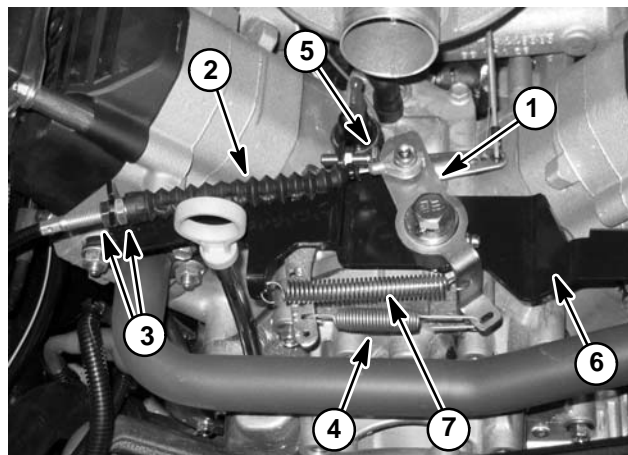
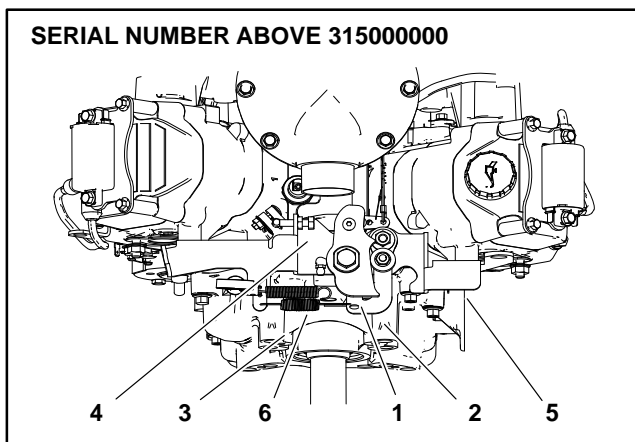

Figure 2
Figure 3
NOTE: Accelerator control for vehicles with serial numbers below 315000000 is shown in Figure 2 and accelerator control for vehicles with serial numbers above 315000000 is shown in Figure 3.
6. If high idle speed is incorrect, adjust high speed screw on engine throttle bracket (Fig. 2).